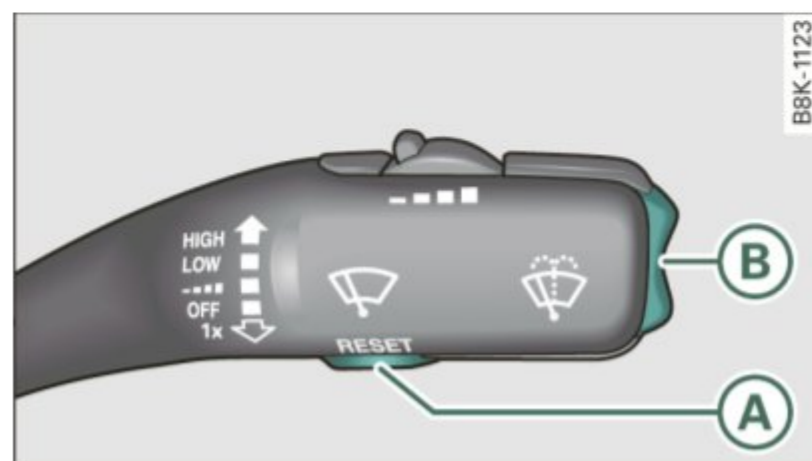

Fig. 17 Windshield wiper lever: controls for the trip computer
You can switch between the trip computer 1 and 2 and the efficiency program* by pressing the **RESET** button  ⇒ page 26, fig. 17.
- To display the trip computer memory levels, press the **RESET** button (A) ⇒ fig. 17 repeatedly until the desired memory level is shown in the display.
- To display trip information within a memory level, press the top or bottom part of the function selection switch (B).
- Press the **RESET** button **(A)** ⇒ *page 26*, *fig. 17* repeatedly until the efficiency program appears in the display.
- In the efficiency program, press the function selection switch ⇒ *page 26*, *fig. 17* **(B)** repeatedly until the enhanced shift indicator appears in the display.
- In the efficiency program, press the function selection switch ⇒ *page 26, fig. 17 (B)* repeatedly until the other equipment appears in the display.
- To turn a fuel economy message off immediately after it appears, press the **RESET** button ⇒ *page 26, fig. 17 (A)*, or
- Press the function selection switch ⇒ *page 26, fig. 17 (B)*.